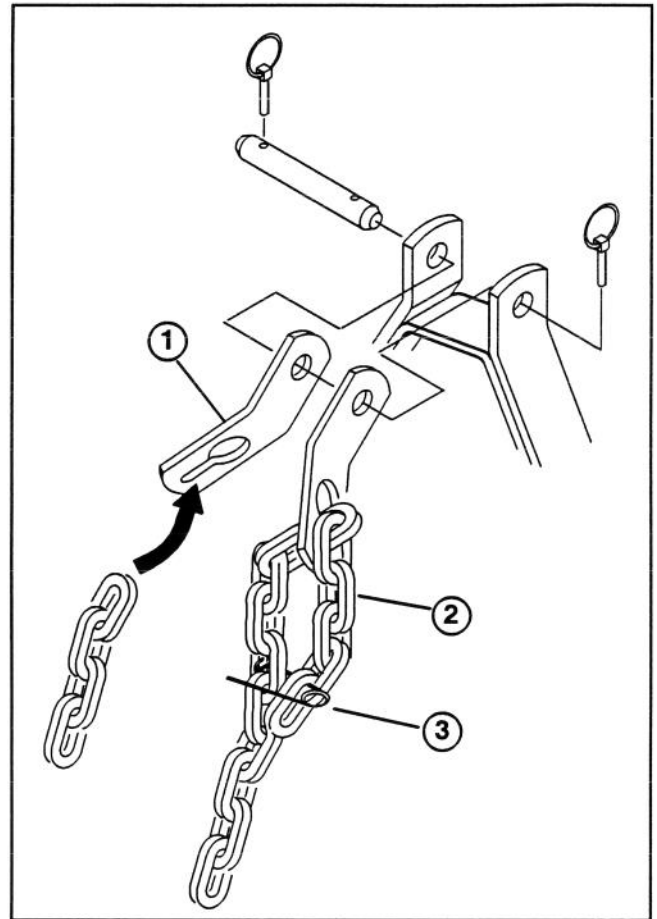

Figure 6
9. Mount chain adjust brackets between tops of offset bars with a clevis pin and (2) lynch pins as shown in figure 6.
10. Hook a chain end in each bracket slot and secure with safety pin, as shown in figure 6.